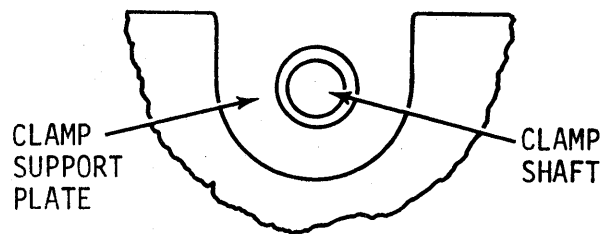

Figure 4-13. Clamp Support Plate Clearance
- e. Clearance should exist between the clamp shaft and the clearance hole in the clamp support plate (see figure 4-13). If clearance does not exist, adjust per steps f and g.